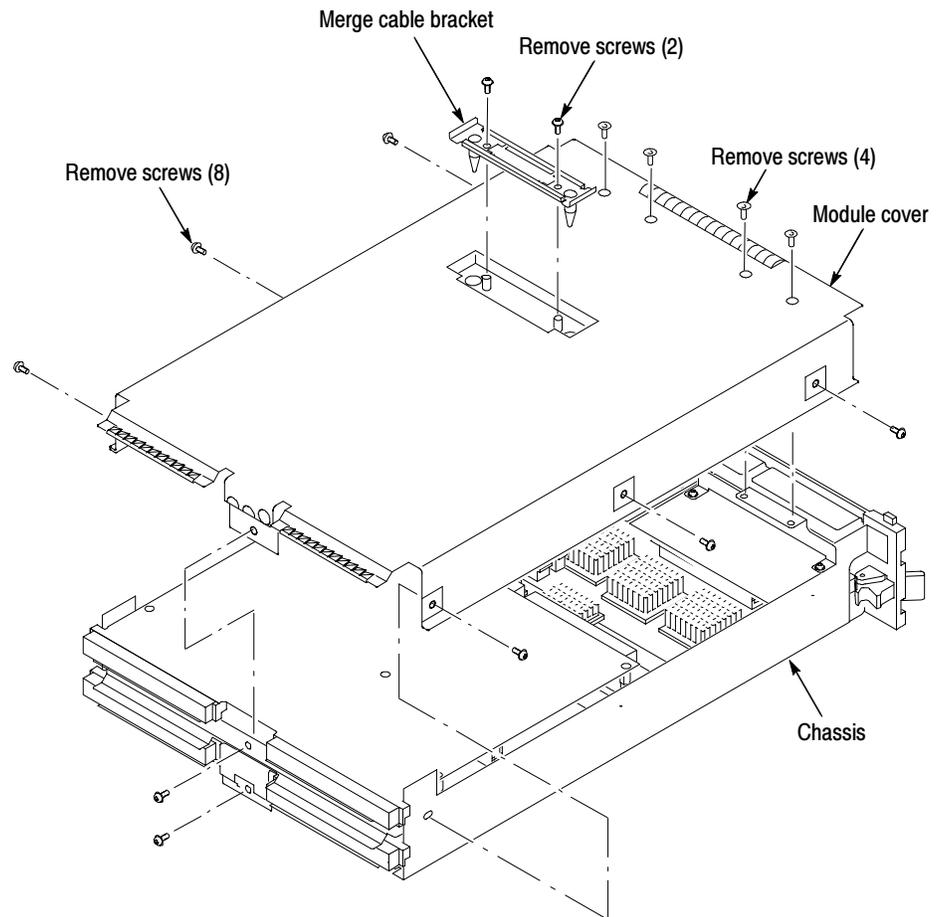

Figure 21: Removing the cover
4. Remove the screws from the module cover with a screwdriver with a T-10 Torx tip; refer to Figure 21 on page 33.